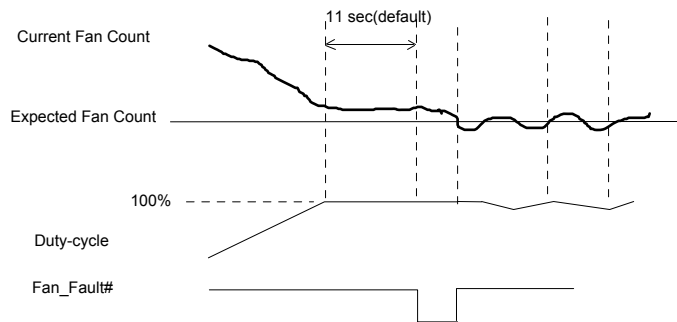

Figure 13 FAN_FAULT# event
(1). When PWM_Duty reaches 0xFF, the fan speed count can't reach the fan expected count in time. (Figure 13)